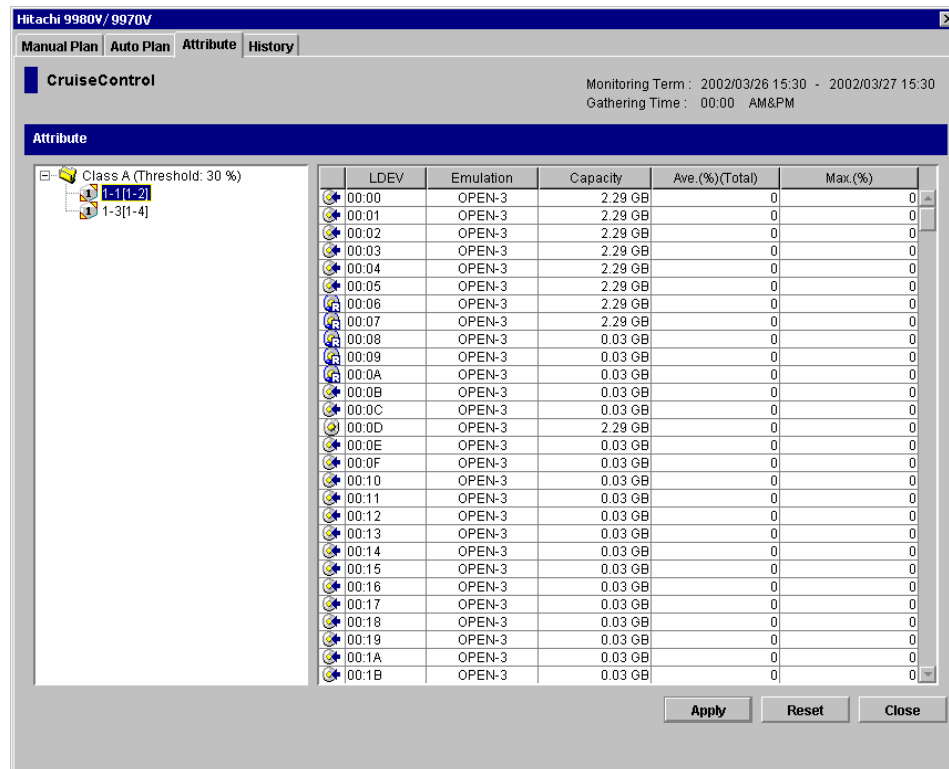

Figure 5.7 The Attribute Tab
2. From the CruiseControl™ panel, click the **Attribute** tab (see Figure 5.7).
2. From the CruiseControl™ panel, click the **Attribute** tab (refer to Figure 5.7).